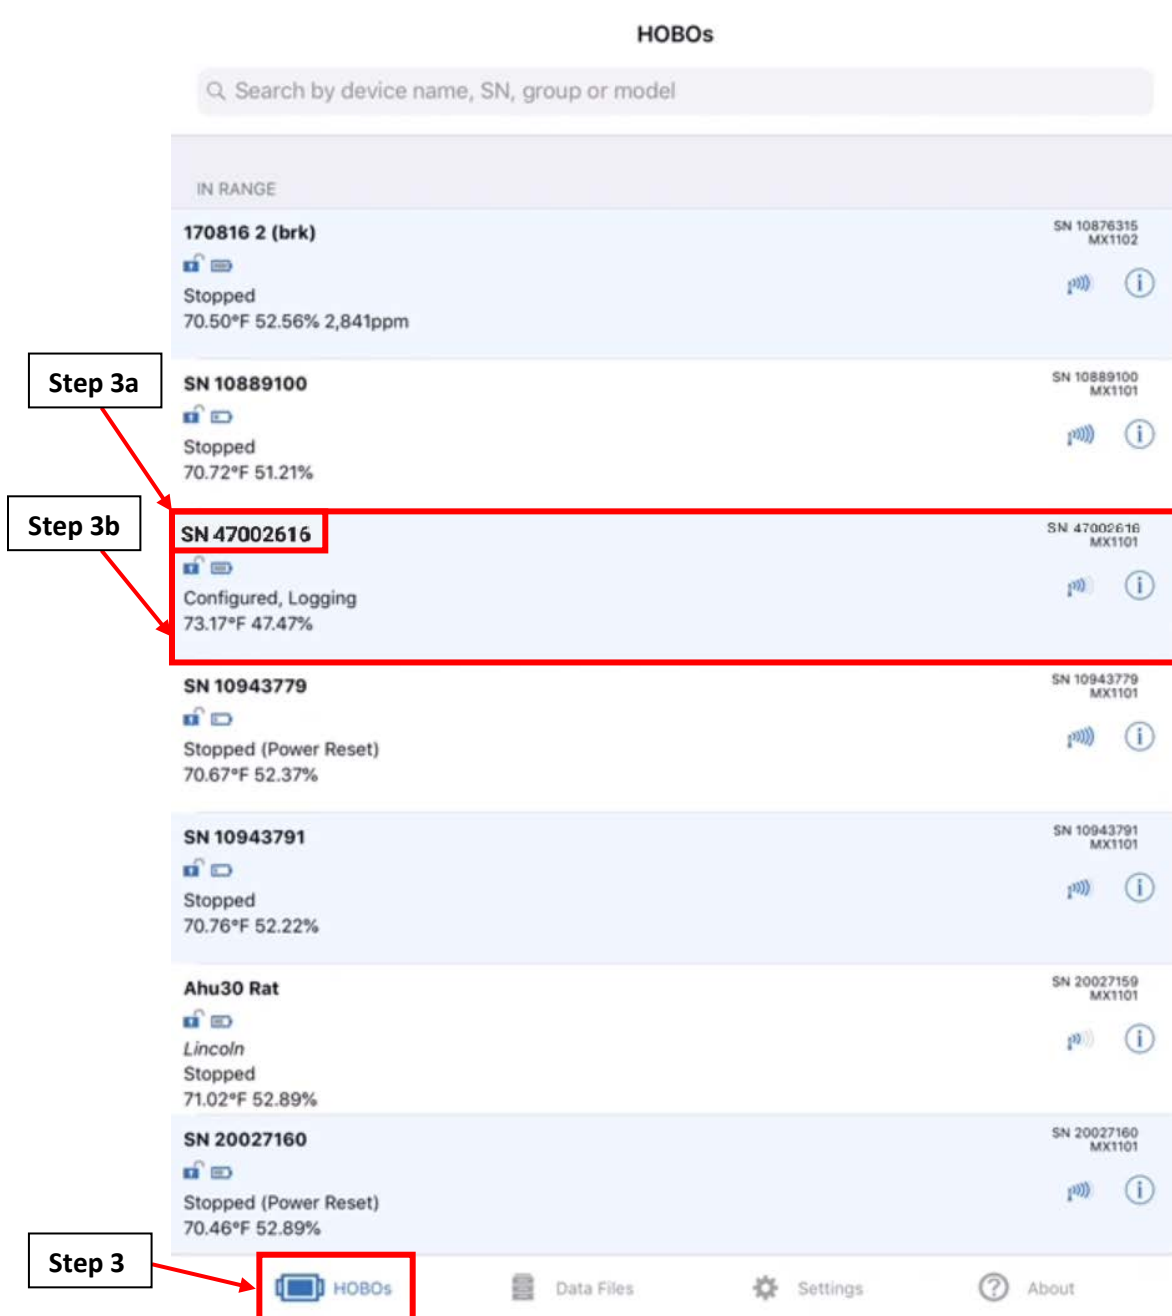

Figure A.6.16: The HOBOMobile HOBOS screen.
3. If you are not on the “Connected” screen. Tap the “HOBOS” icon as shown on Figure A.6.16.